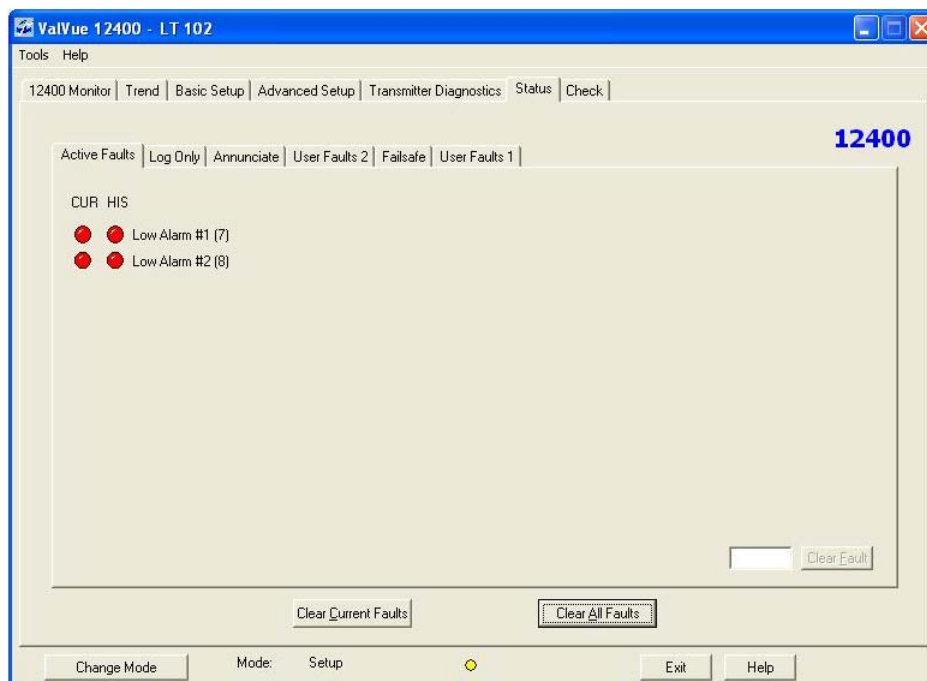

Figure 266 Status Screen
- When you are on the *Active Faults* tab the current active faults appear (Figure 266). The status codes are then partitioned into their respective 12400 functional areas.